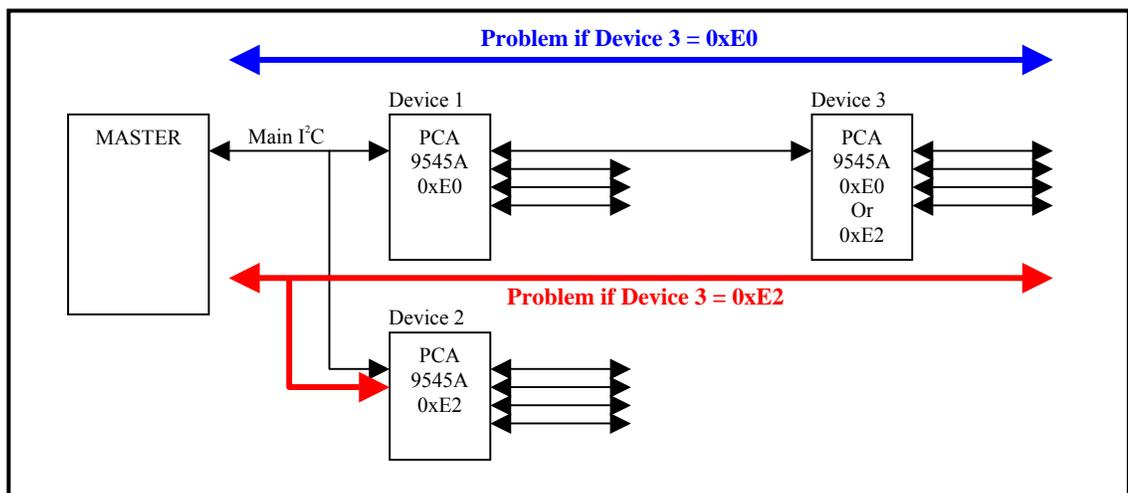

Figure 17. Address conflicts using several PCA9545A
**Answer:** you can't have more than one I2C multiplexer/switch with the same slave address in your system. An I2C multiplexer/switch behaves like any other I2C slave device: if several devices have the same address and are present in the same bus then they will all respond to the master sending this slave address and will perform the exact same operation (assuming a write operation). Figure 17 illustrates the different conflicts that can occur.